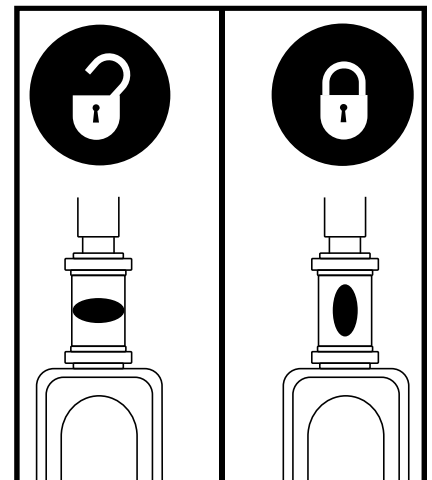

Figure 18. Tiller Lock Knob
1. Remove the key from the key switch and then lock the tiller in the straight ahead position by pushing the tiller lock knob in and turning it clockwise 90°. See **figure 18**. The front wheel must face forward in order to lock the tiller.
6. Unlock the tiller by turning the tiller lock knob 90° counterclockwise. **See figure 18.**